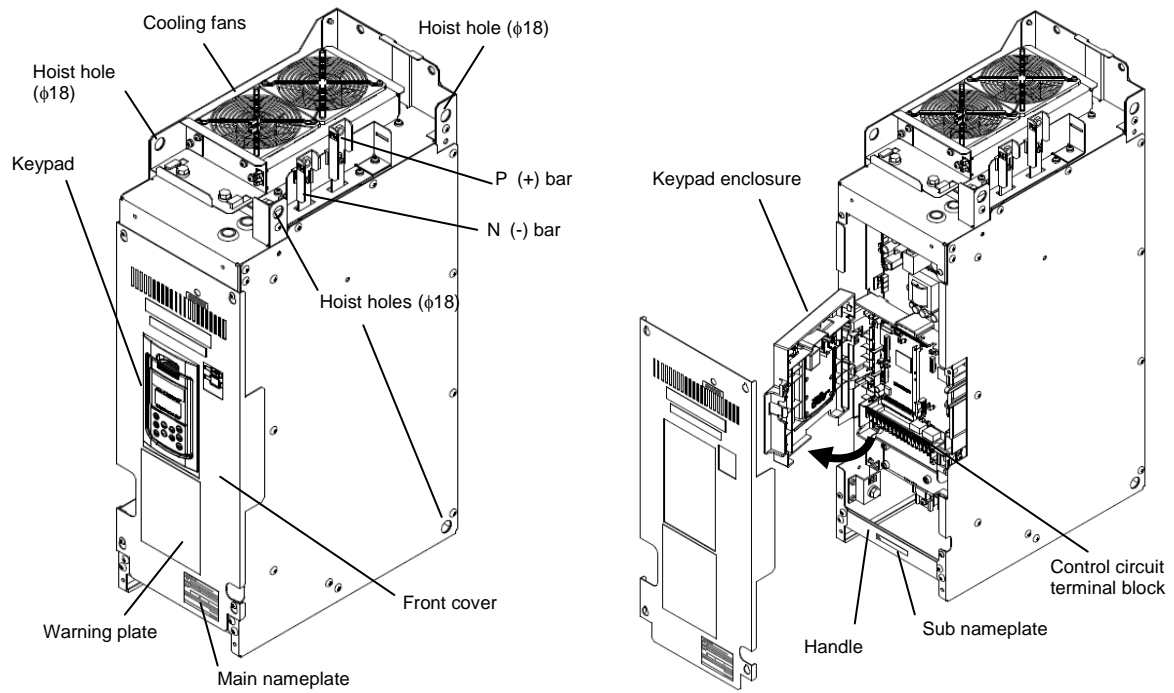

Figure 1.2-1 Rank 1 (30 to 45 kW)
- (1) An inverter and the following accessories are contained.
- (2) The inverter has not been damaged during transportation—there should be no dents or parts missing.
- (3) The inverter is the type you ordered. You can check the type and specifications on the main and sub nameplates. (The main and sub nameplates are attached to the inverter as shown in Figures 1.2-1 through 1.2-4.)